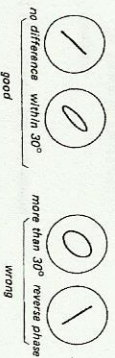

Fig. 12-17 Lissajous figures
- (1) Make the p.b. head phase check.
- (2) Thread a blank tape.
- (3) Deliver a 1.5 KHz signal of -10 dB (0.24V) into the AUX input jack and record the signal on the blank tape.
- (4) Be sure to obtain the Lissajous figure as shown in Fig. 12-17.